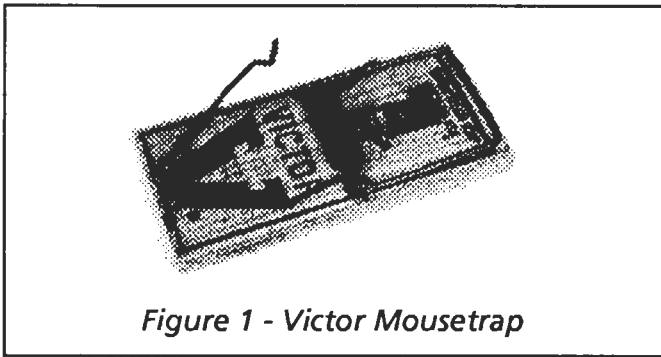

Figure 1 - Victor Mousetrap
- Victor mousetrap (See Figure 1.)